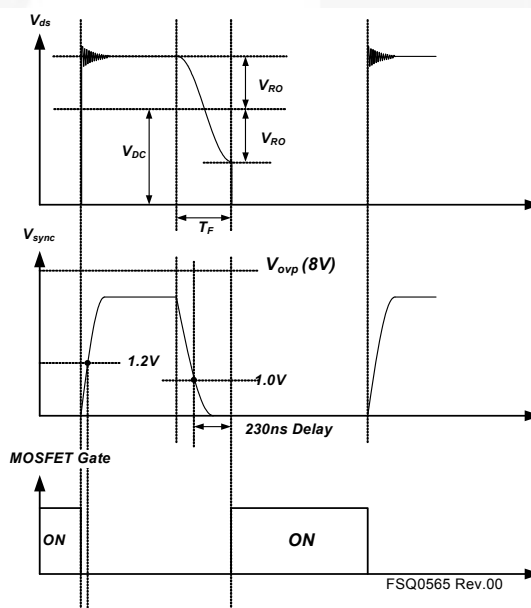

Figure 25. Quasi-Resonant Switching Waveforms
3. Synchronization: The FSQ-series employs a quasi-resonant switching technique to minimize the switching noise and loss. The basic waveforms of the quasi-resonant converter are shown in Figure 25. To minimize the MOSFET's switching loss, the MOSFET should be turned on when the drain voltage reaches its minimum value, which is indirectly detected by monitoring the V_{CC} winding voltage, as shown in Figure 25.